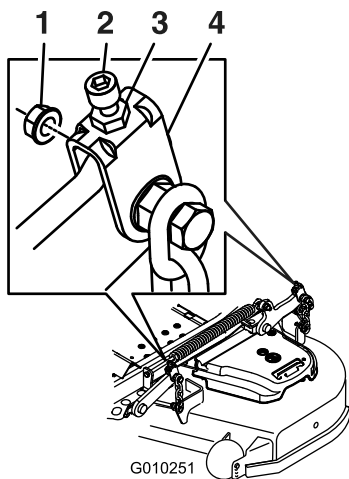

**Figure 88**
9. On both sides of the deck, measure from the level surface to the front tip of the blade (Position A). The measurement should read 76 mm (3 inches) (Figure 88).
- On both sides of the deck, measure from the level surface to the back tip of the blade (Position B). The measurement should read 83 mm (3-1/4 inches) (Figure 88).